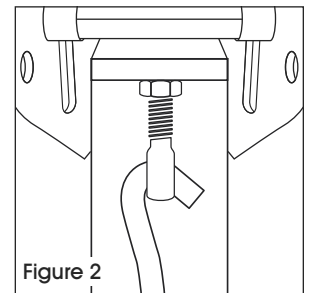

Figure 2
1. Place hook of rod through pull screw. (See Figure 2)